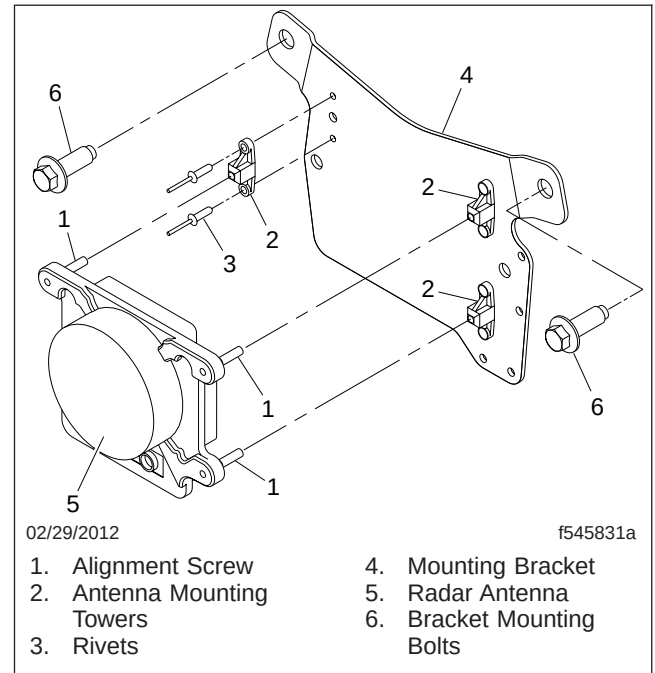

Fig. 2, Radar Antenna Mounting Assembly
4. Remove the three alignment screws from the antenna mounting towers and remove the radar antenna. See Fig. 2. The alignment screws will remain in the ball socket clip attached to the antenna.